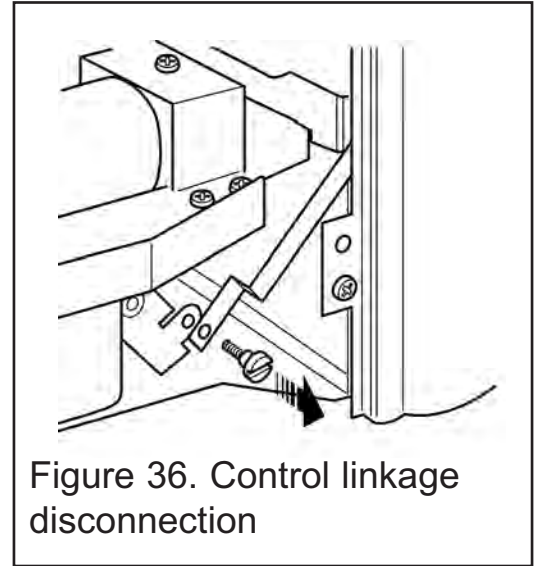

Figure 36. Control linkage disconnection
2. Remove the knurled screw securing the control linking arm to the burner (See figure 36).